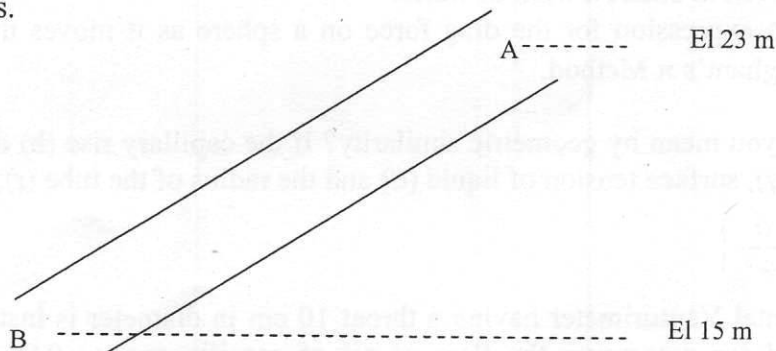

Figure 1
- (c) The velocity potential for a 2D flow is given by the expression  $\phi = x^2 - y^2$ . Determine the velocity components, stream function and flow rate between the streamlines passing through A (1,1) and B (1,2). (10)
2. (a) Explain why a correction factor is applied while calculating the kinetic energy of fluid flow. (4)
- (c) A pipe AB (figure 1) is of uniform diameter. The pressure at A is  $170 \text{ kN/m}^2$  and at B is  $280 \text{ kN/m}^2$ . If a crude oil ( $S = 0.90$ ) is flowing through the pipe, determine the direction of flow and head loss. (9)